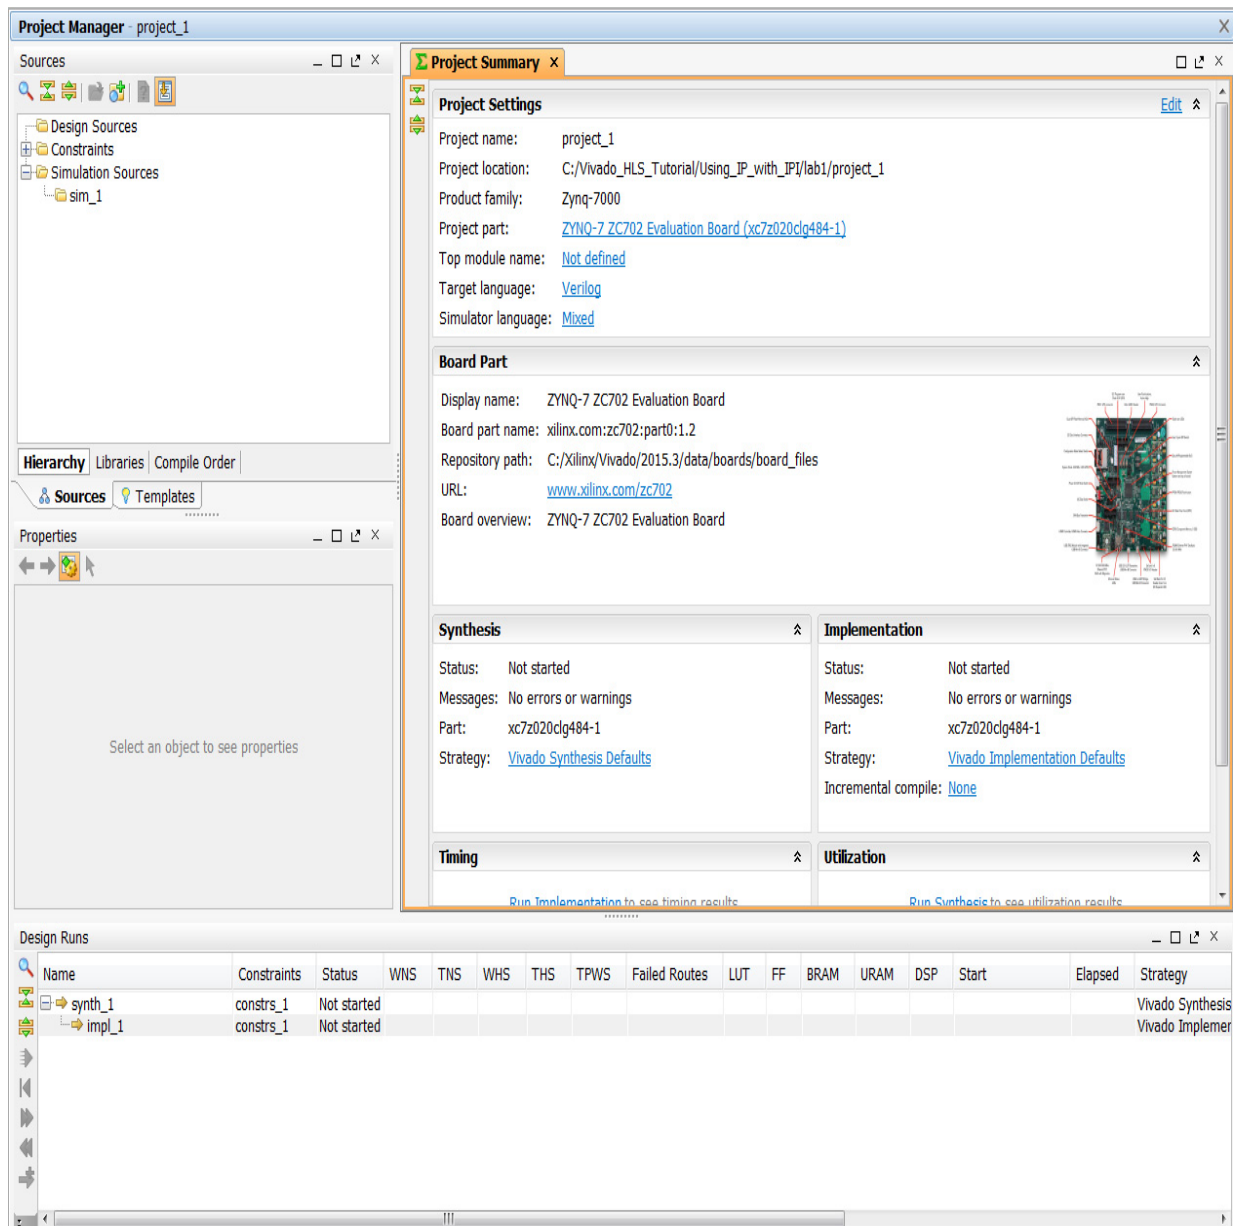

Figure 9-6: Vivado Project
- On the New Project Summary Page, click **Finish** to complete the new project setup. The Vivado workspace populates and appears as shown in Figure 9-6.